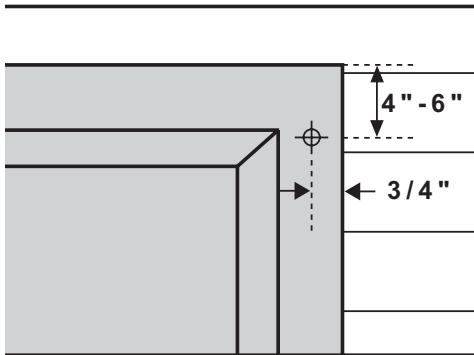

Figure 2 / Figura 2
2. Clearly mark screw hole locations with a pencil. Screw holes should be marked 4” to 6” from the top and bottom of the stile, and within 3/4” above the point where the siding makes contact with the shutter (see Figure 2). This allows for maximum screw penetration.